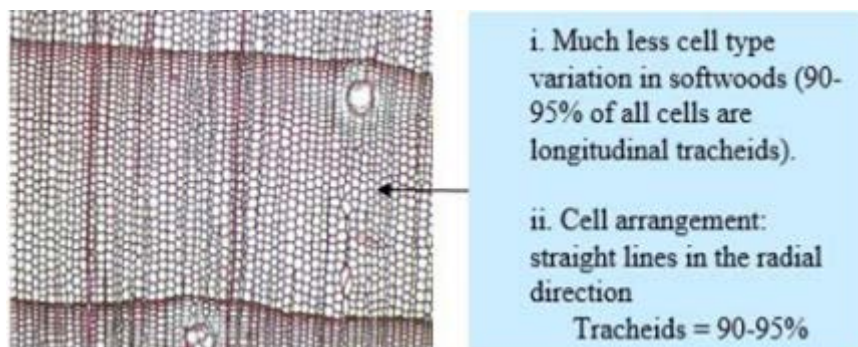

Fig. 2.1.4: Tangential section of softwood [sourced from teacher's manual]
2. **Non-Pored Wood:** Commonly referred to as softwood, this type of wood lacks visible pores or channels, as shown in Fig. 2.1.4. Instead, it contains *rays* and *tracheids*. Tracheids are long cells that transport nutrients and water vertically through the tree. Rays, which extend from the tree's core to its outer layers like tiny channels, assist in the lateral movement of nutrients and water. These rays also provide structural support and strength to the timber.